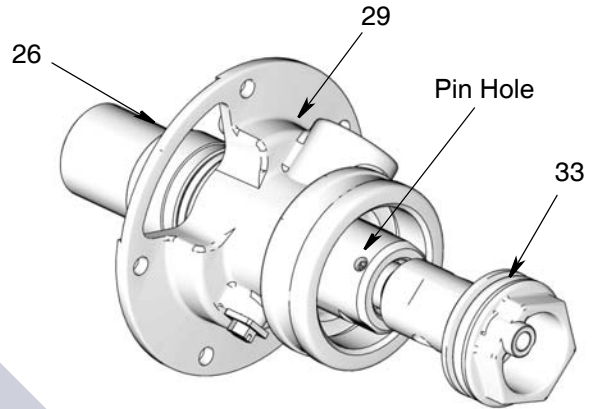

Fig. 9
- Install new o-rings and seals in bottom cover (26) and flange (29) as described in the Throat and Piston Seal Replacement Kit 24H853, page 9. Be sure to apply a thin coat of water-resistant grease to all o-rings and seals.
- Apply a thin coat of grease round the top of the displacement rod (30) and install the rod assembly in the flange assembly as shown in Fig. 9.